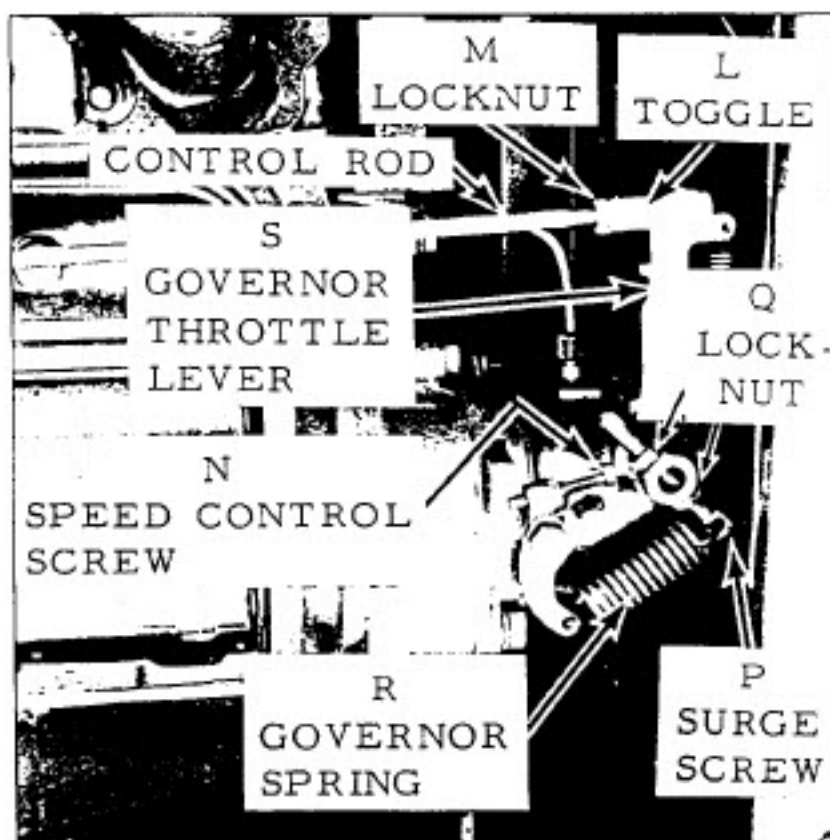

FIGURE 7 — Pierce Governor
Refer to Figure 7. The surge screw (P) is the sensitivity adjustment on the Pierce governor. To change this adjustment, loosen one locknut (Q) and tighten the other. This changes the position of the surge screw. Moving the screw down or to the right reduces surge but increases speed drop. Moving the screw up or to the left increases surge but reduces the speed drop.